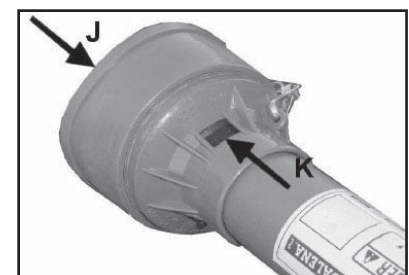

Figure 5
1. There are 3 black tabs around the cover (Ref. K, Figure 5). Take a screwdriver and press against the tabs one at a time with downward angular pressure toward the end of shaft marked (Ref. J, Figure 5). As you are pressing tab grasp cover at point marked (Ref. J, Figure 5) and apply pressure against cover in the direction of arrow, do this for each tab.